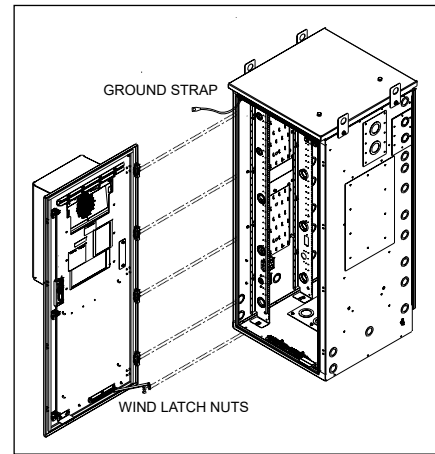

Figure 15 Door Removal
3. Remove the door (Figure 15).